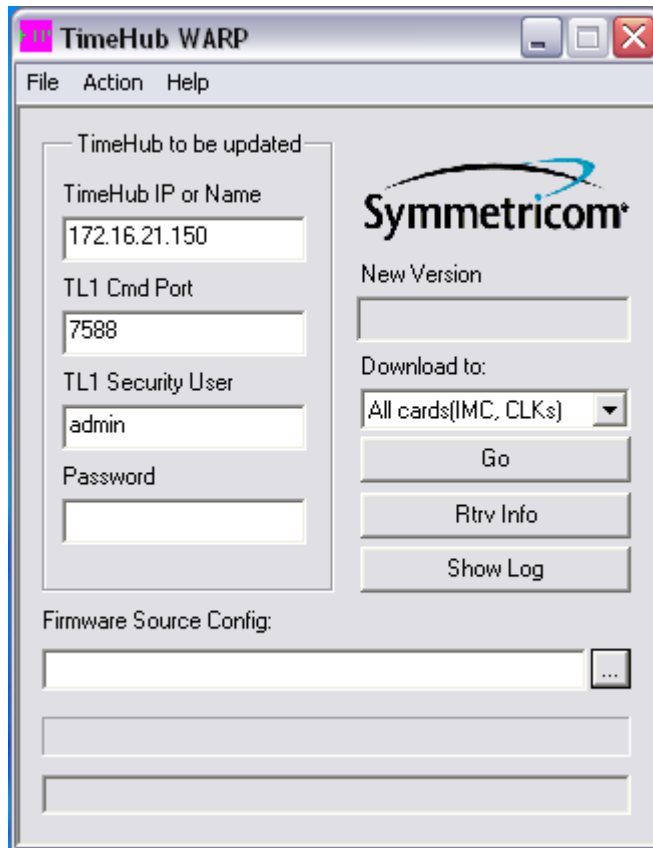

Figure 5-12. The TimeHub WARP Window
2. Start the TimeHub WARP application. The application window appears, as shown in Figure 5-12.